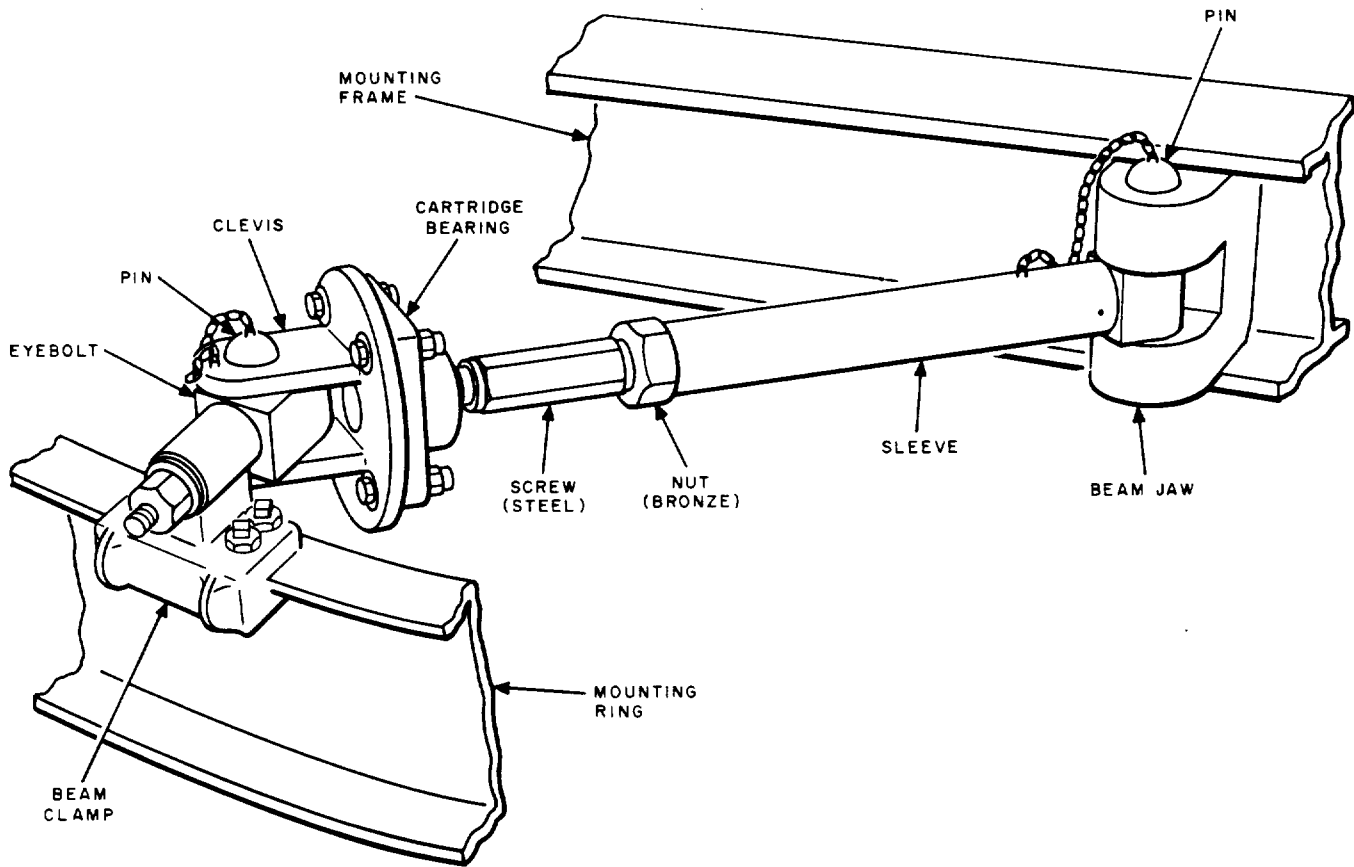

Fig. 7—KS-15676 L12 Azimuth Adjusting Tool
(1) ⚡Either the L12 or the L17 azimuth adjusting tool (Fig. 7 and 8) may be used to make the fine adjustment of the antenna in azimuth during electrical orientation. The adjusting tools are mounted and operated in the same manner except that the L12 tool is operated with an open-end wrench instead of a ratchet assembly, which is a part of the L17 tool. The tools are intended for use only during orientation and are not to be left in position on the antenna.⚡
(2) On the antenna deck, select the L11 mounting clamp which is the most convenient for use with the azimuth adjusting tool. In general, this will be the clamp nearest the center of the tower. Slightly loosen the eyebolt stopnut and remove the 3/4-inch bolt from the beam jaw. Lay the bolt, with nut, carefully aside. Unlock and turn the four setscrews in the beam clamp until the clamp can be moved sideways on the mounting base flange. Move the clamp on the flange, withdrawing the eyebolt head from the beam clamp. Insert the end of the azimuth adjusting tool in the beam jaw, and fasten it by dropping the captive pin through the bolt hole in the beam jaw. ⚡Extend the screw(s) of the azimuth adjustment tool enough to expose